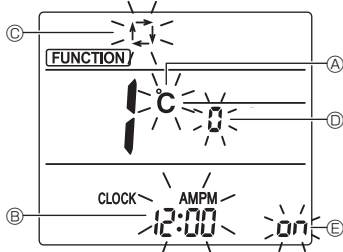

Fig. 4-11
The Screen display setting screen will be displayed. (Fig. 4-11)
4.12.2. Changing the temperature unit (Fig. 4-11 A)
- Press the **TEMP** button ⑤.
- Each time the **TEMP** button ⑤ is pressed, the setting switches between **°C** and **°F**.
4.12.3. Changing the time display (Fig. 4-11 B)
- Press the **TIME** button ⑥.
- Each time the **TIME** button ⑥ is pressed, the setting switches between **12:00^{AMPM}** and **24:00^{AMPM}**.
4.12.4. Changing the AUTO mode (Fig. 4-11 C)
- Press the **MODE** button ⑦.
- Each time the **MODE** button ⑦ is pressed, the setting switches between **⊞** and **⊞**.
4.12.5. Changing the pair No. (Fig. 4-11 D)
- Press the **UP** button ④.
- Each time the **UP** button ④ is pressed, the pair No. 0-3 changes.